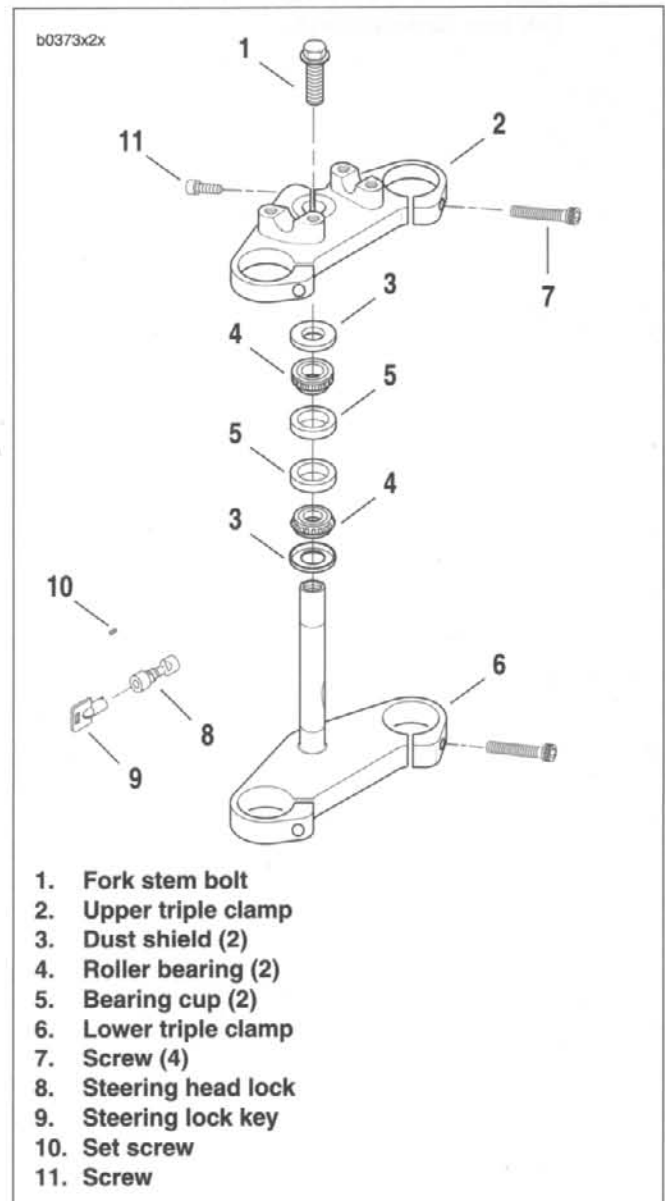

Figure 2-105. Fork Stem
4. See Figure 2-105. Remove all upper triple clamp screws (7, 11), fork stem bolt (1) and upper triple clamp (2).
5. Remove upper dust shield (3) and roller bearing (4).
- a. Remove two lower triple clamp screws (7). Pull the lower triple clamp (6) downward.
- d. Remove lower dust shield (3).
7. If replacement of bearing cups (5) is necessary, drive cups from steering head using STEERING HEAD BEARING RACE REMOVER (Part No. HD-39301A) and UNIVERSAL DRIVER HANDLE (Part No. HD-33416).
1. See Figure 2-105. Clean the dust shields (3), bearing cups (5), fork stem and lower triple clamp (6) and frame with solvent.
2. Carefully inspect bearing races and assemblies for pitting, scoring, wear and other damage. Replace damaged bearings (4) as a set (3, 4 and 5).
3. Check the fork stem and lower triple clamp (6) for damage. Replace if necessary.
2. See Figure 2-105. Liberally coat the bearing cones (4) with grease using WHEEL BEARING PACKER TOOL (Part No. HD-33067). Work the grease into the rollers.
- a. Place lower bearing dust shield (3) over fork stem.